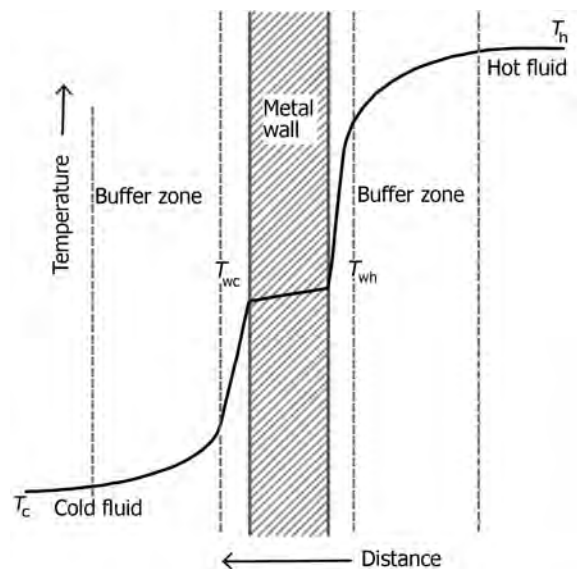

FIGURE 9.16 Temperature gradients in forced convection.
- Temperature gradients through hot fluid, metal wall, and cold fluid are illustrated below, signifying the resistances offered by the metal wall and the two fluid films on both sides of the metal wall. The boundaries of steep temperature changes on either side of the metal wall are indicated in Figure 9.16.